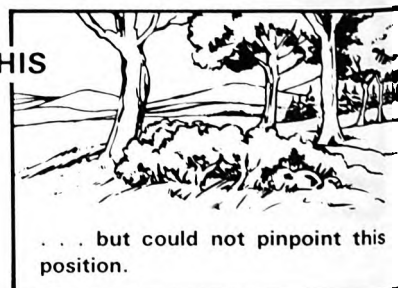

Figure 3.
b. Use soil removed from the position to build a parapet and then cover it with sod in such a manner that it looks natural and will have a good chance of growing. Conceal the dirt you dig from the foxhole by carrying it away and putting it under low bushes, on roads, or in streams and ponds (figure 3). The poncho is handy for carrying soil.